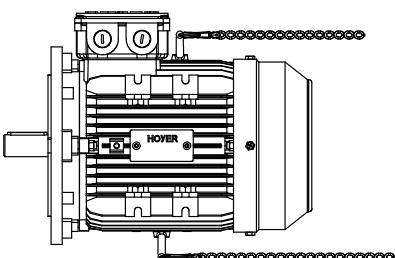

Figure 3
3. Hold on motor to the motor to ensure that it is turning slowly and stable until the motor reaches the desired vertical position, see Figure 3.